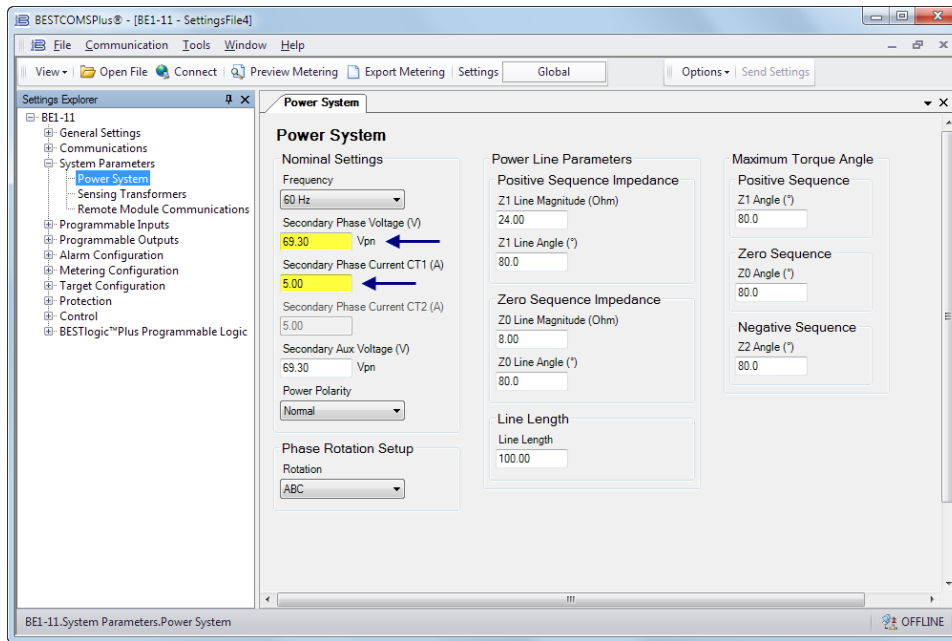

Figure 2-11. Power System Screen
- Step 5: In the Settings Explorer, click the "+" next to BE1-11. This expands the sub menus in the tree. Now expand System Parameters and select the Power System screen. See Figure 2-11.